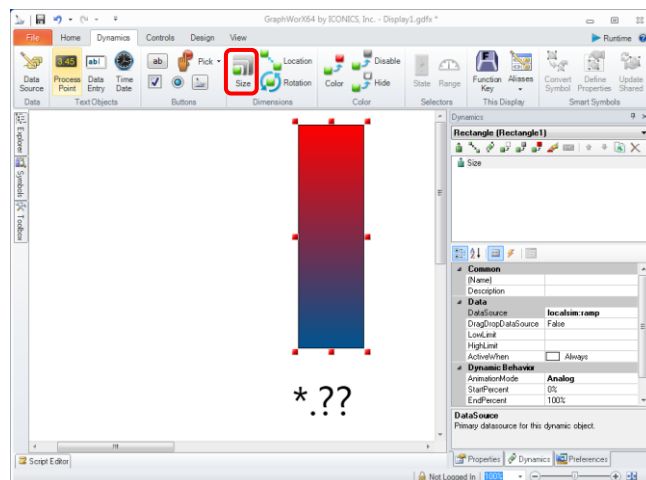

Figure 7 - Adding the Size Dynamic to the Rectangle Object
6. Select the **Rectangle** button in the Shapes section; hold the left-mouse button down while you drag the mouse to draw a rectangle similar to Figure 7.